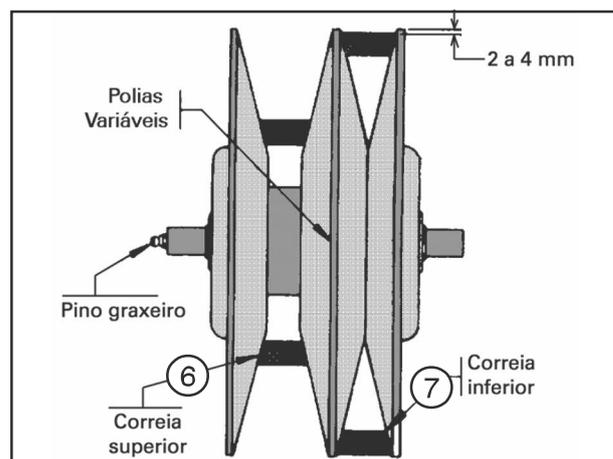

Fig. 1A - Maximum speed
- Put the variable drive in the maximum speed position. - Fig. 1A